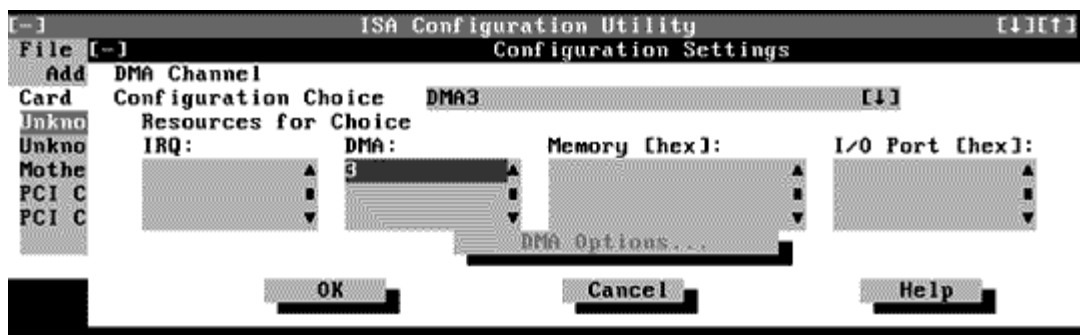

Figure 4-6. Configuration Settings Dialog Box for Assigning a DMA Channel
- To change individual resource values for the current configuration setting, select the resource value that you want to change and click the Options button located below the resource values (see Figure 4-6).